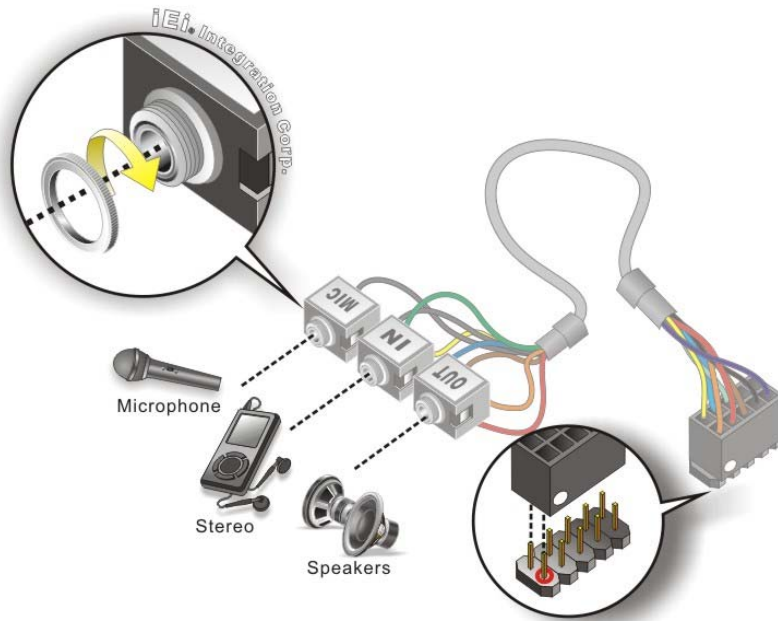

Figure 4-8: Audio Kit Cable Connection
Step 2: Align pin 1. Align pin 1 on the on-board connector with pin 1 on the audio kit connector. Pin 1 on the audio kit connector is indicated with a white dot. See Figure 4-8.